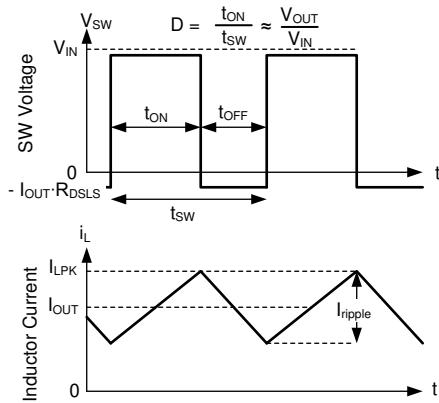

图 8-14. SW Voltage and Inductor Current Waveforms in Continuous Conduction Mode (CCM)
The following operating description of the LMR36506 refers to 图 8.2 and to the waveforms in 图 8-14. In CCM, the LMR36506 supplies a regulated output voltage by turning on the internal high-side (HS) and low-side (LS) switches with varying duty cycle (D). During the HS switch on-time, the SW pin voltage, V_{SW} , swings up to approximately V_{IN} , and the inductor current, i_L , increases with a linear slope. The HS switch is turned off by the control logic. During the HS switch off-time, t_{OFF} , the LS switch is turned on. Inductor current discharges through the LS switch, which forces the V_{SW} to swing below ground by the voltage drop across the LS switch. The converter loop adjusts the duty cycle to maintain a constant output voltage. D is defined by the on-time of the HS switch over the switching period: